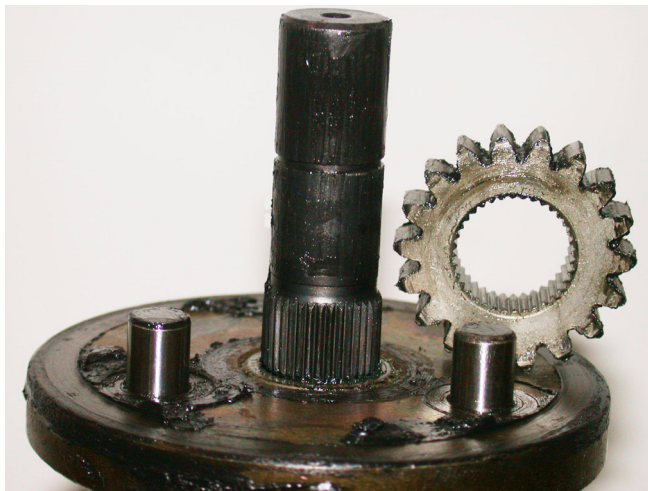

Figure 11.13
- The hex shaft transfers torque from the rubber drive disc to the sun gear splined on each end of the hex shaft. See Figure 11.13.